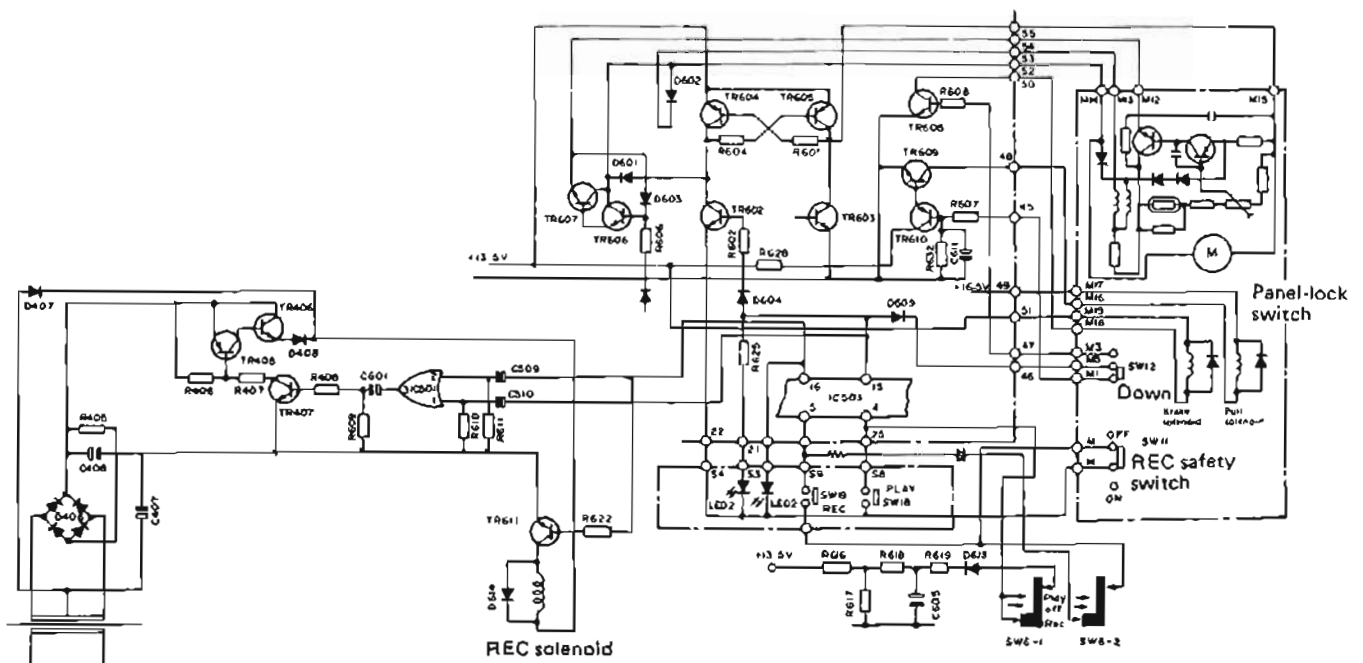

Fig. 21
10. Timer in standby condition (See Fig. 21.)